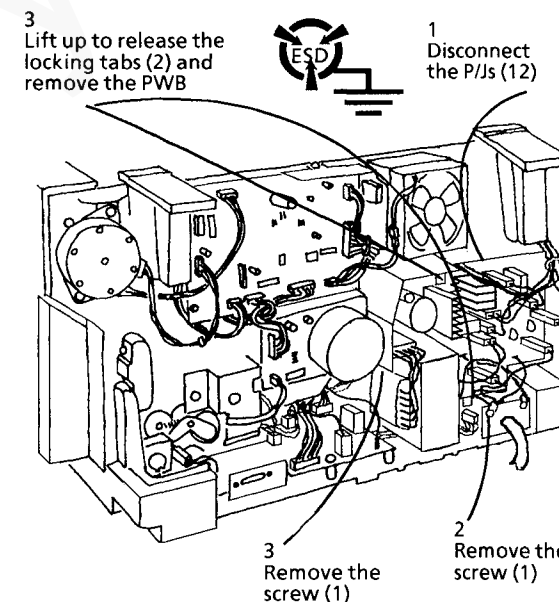

Figure 1. Removing the Input Power PWB
4. Remove the Input Power PWB (Figure 1).